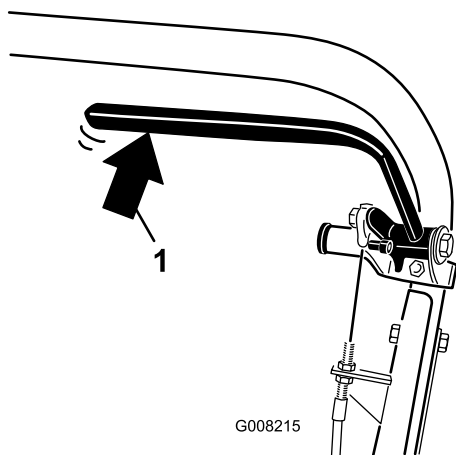

Figure 31
2. Using a spring scale, press rearward on the service brake lever (Figure 31). The parking brake should release when a force of 13.5 to 18 kg (30 to 40 lbs) is attained. If the parking brake releases before 13.5 to 18 kg (30 to 40 lbs) of force is attained, an adjustment to the brake cable is required. Proceed to step 3.